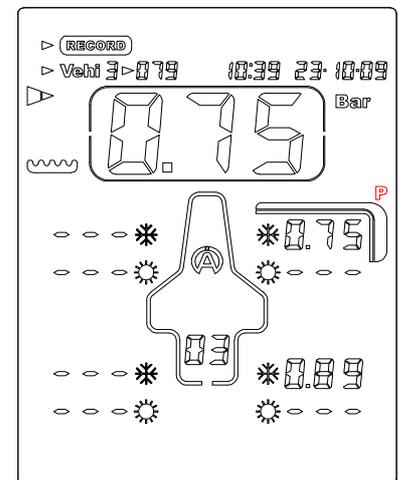

Figure 6
- 8) Press the central button  to record the measured temperature and prepare the Tyrecontrol on the next point of capture (*Figure 6*).